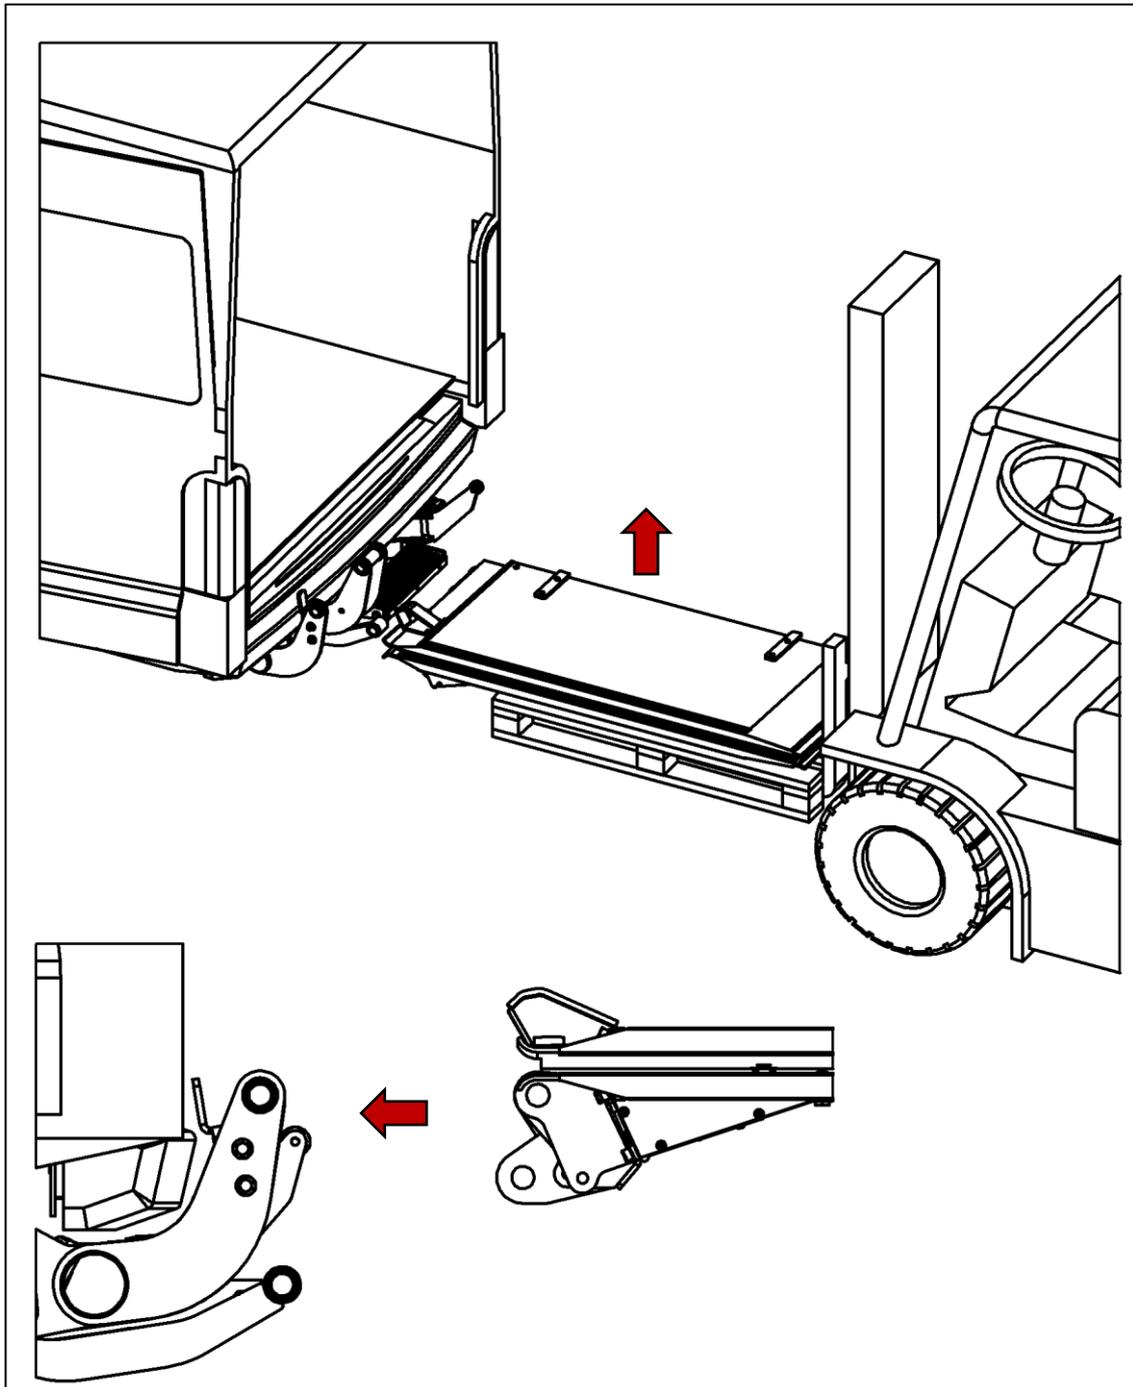

Fig. 54
- Lift the platform using suitable means, e.g. crane, assembly table, or pallet truck and pallet (see Fig. 54).